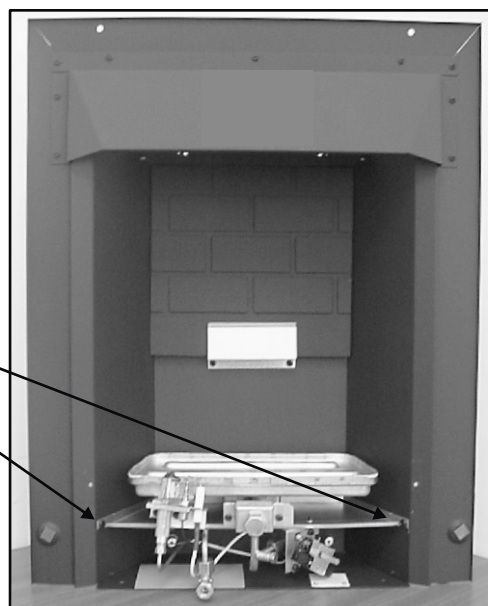

Fig 11b.
- 6.2.3 For the 'Manual' version, remove the burner tray by removing the two screws. Refer to Fig 11b.